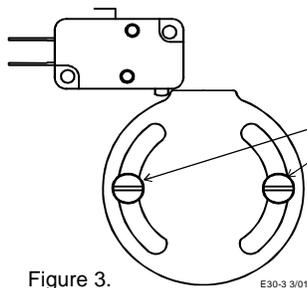

Figure 3.
5. Locate outer cam (under motor cap) and adjust until switch just actuates. See Figure 3.